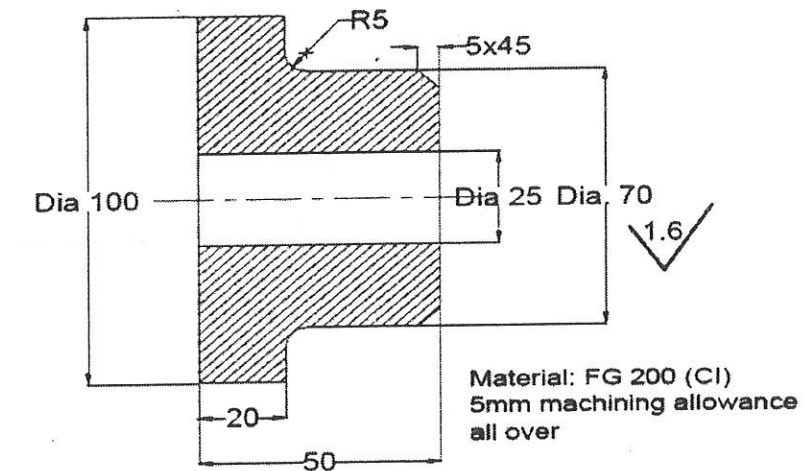

Fig. 3
- (b) Write a CNC program for machining the component shown in Figure 3. Assume that the workpiece is having size of $\phi 108 \text{ mm} \times 60 \text{ mm}$.